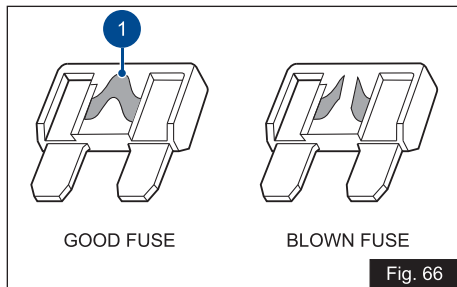

Fig. 66
You can identify a blown fuse by the interrupted centre link (1) (ref. Fig. 66).